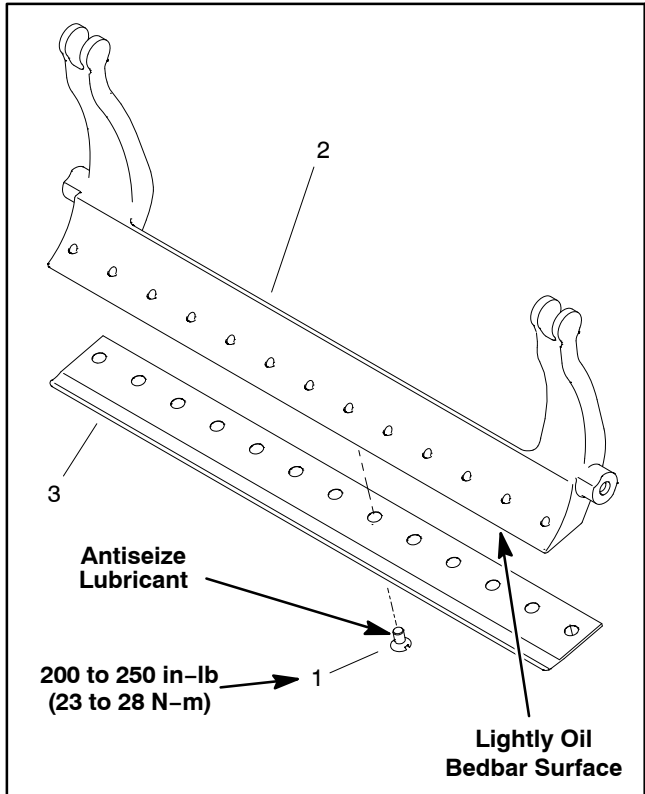

Figure 20
2. Remove screws from bedbar using a socket wrench and bedknife screw tool (see Special Tools in this chapter). Discard screws. Remove bedknife from the bedbar (Fig. 20).